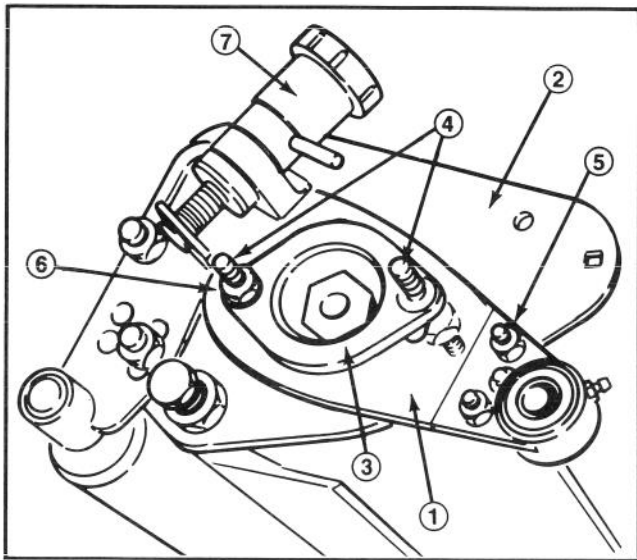

Figure 11
9. Install the right hand groomer plate assembly onto the right reel frame plate (Fig. 11) as follows:
- A. Disassemble the adjustment knob assembly and separate the mounting block from the assembly (Fig. 11).
C. Insert the studs through the adapter, install spacers on the studs and insert the studs through the grooming reel sideplate (Fig. 11). While installing the assembly, slide the right groomer plate bearing over the groomer shaft. Using a stud driver or double nuts, install the assembly to the cutting unit bearing housing. Torque the studs to 17-21 ft-lb.
E. Thread flange locknuts onto each stud. These eventually will be used to mount the reel drive motor (Fig. 11).